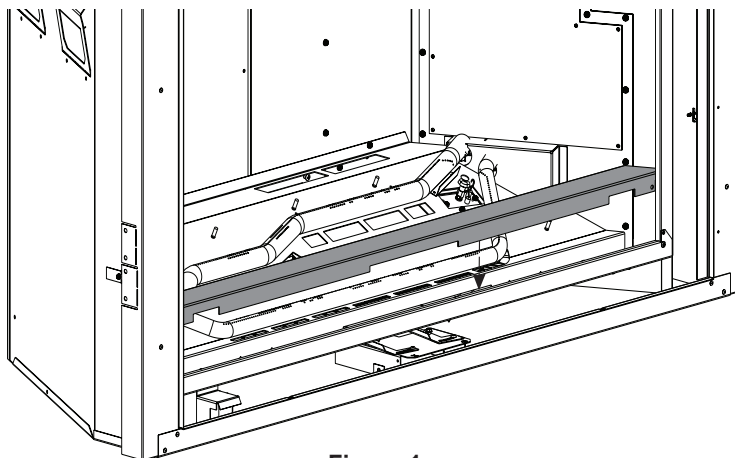

Figure 1
2. Place the BOTTOM LINER as shown in Figure 1.